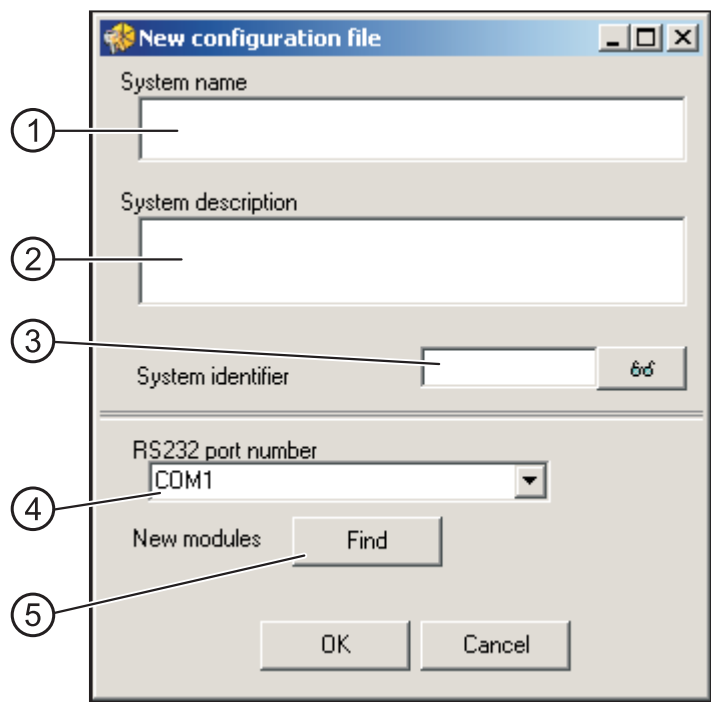

Fig. 18. Window enabling parameters of a new configuration file to be determined.
3. After login, create a configuration file in which all information related to the module (system consisting of several modules) served by the program will be saved. For this purpose, open the FILE menu and select the NEW item. The window shown on Fig. 18. will be displayed. You have to fill in the SYSTEM NAME and SYSTEM IDENTIFIER fields and select the computer port through which communication with the module(s) will be effected. Next, you can click on the FIND button (the module or modules connected to the indicated computer port will be found by the program itself) or directly on the OK button.